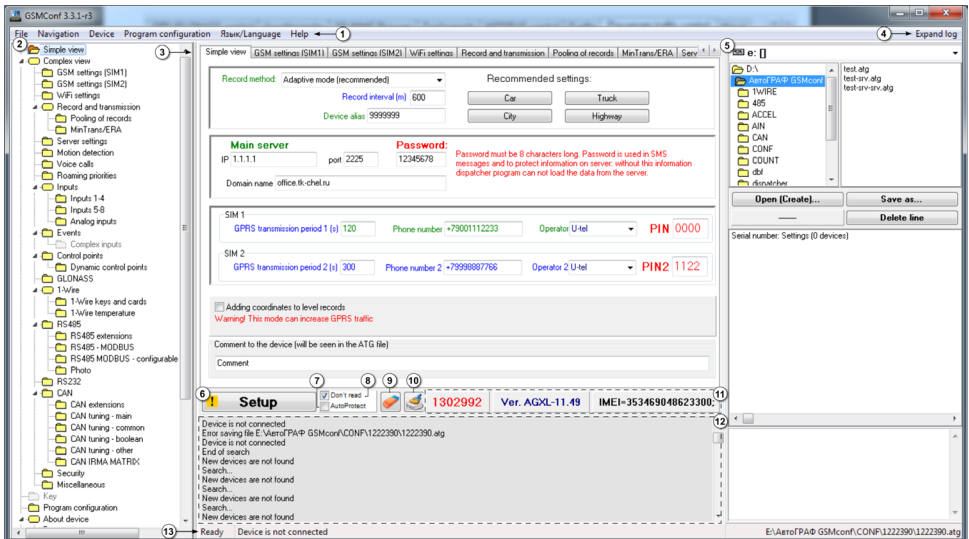

Fig.4. Program Layout.
Options of the menu which are not supported by a firmware of the device (as well as the tabs) are automatically hidden, when connecting the device. Navigation menu is also shown in the dendrogram (see. Fig.4, item 2).
**1. Settings.** Options available on this tab can also be found in the “Program configuration” menu (see Fig. 4).